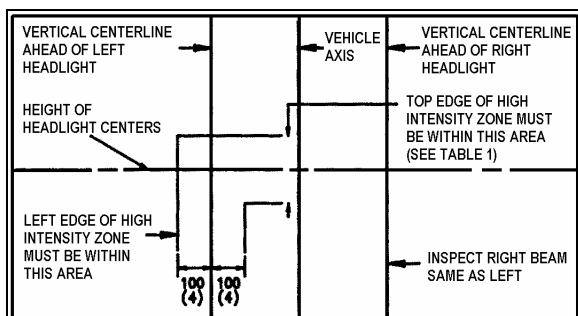

FIGURE 30: AIM INSPECTION LIMITS FOR LOWER-BEAM HEADLIGHTS 06506
- The inspection limits in the vertical direction for low-beam headlights or the low beam of a dual-beam headlight, shall be as described in Table 1. In the horizontal direction, the left edge of the high-intensity zone shall be located from 10 cm (4 in) left to 10 cm (4 in) right of the vertical centerline of the beam. The viewing screen shall be located 7.6 m (25 ft) in front of the vehicle (Fig. 30).